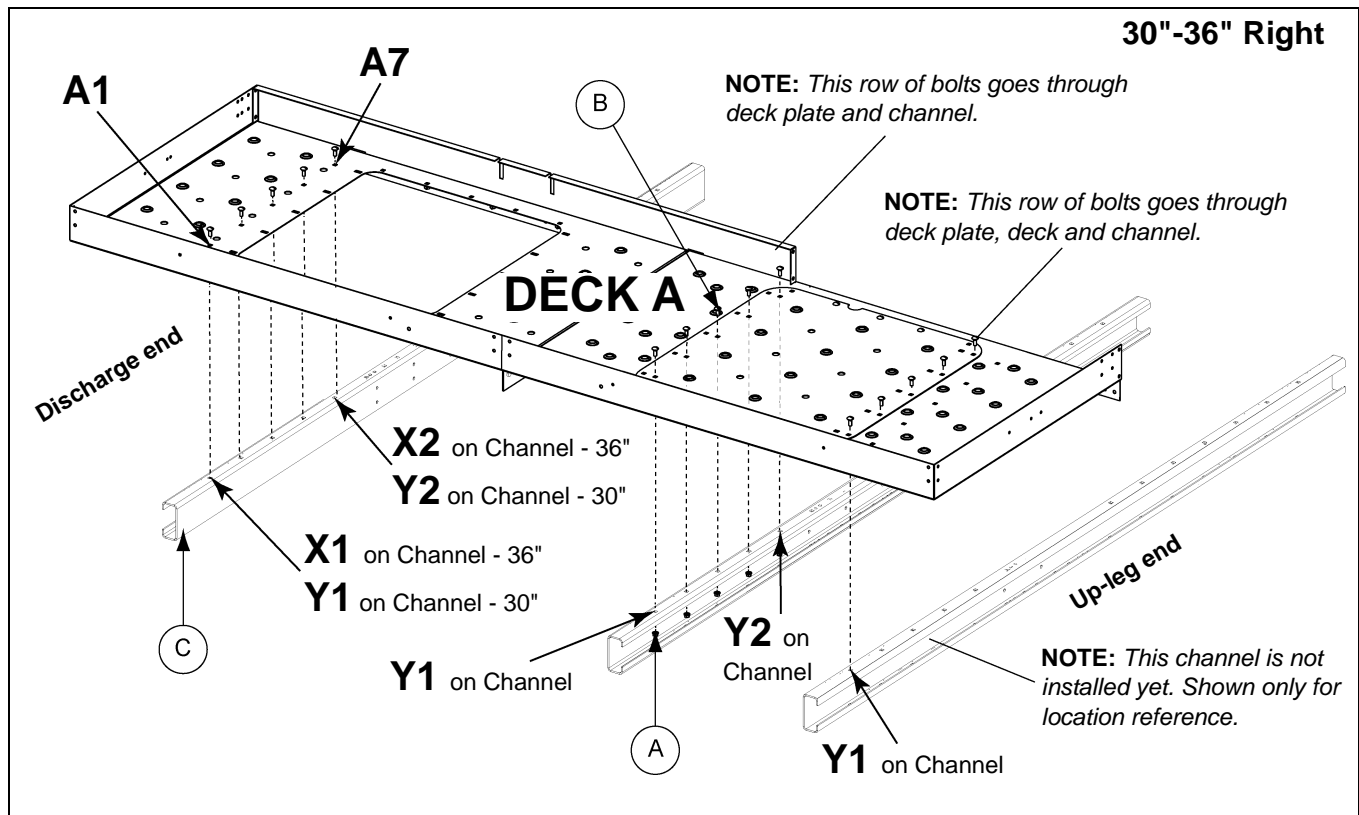

Figure 8H
3. At the **Discharge End**, use a punch as needed to line up. (See Figure 8H.)
- b. At the **hatch side** - channel hole **Y1** on the cross deck support channel to Deck A and deck plate cover. (See Figure 8H on Page 54.)